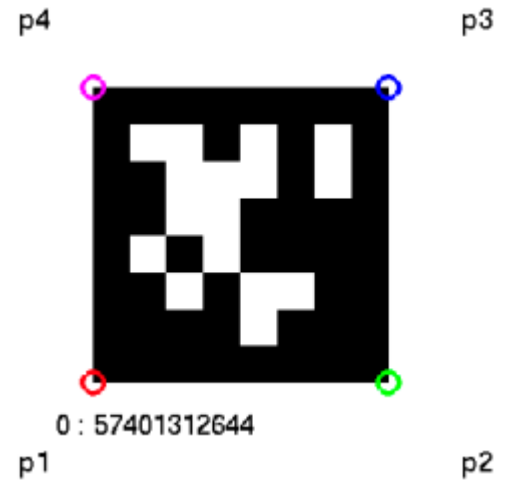

Figure 1: AprilTag example.
In this project, you will implement a nonlinear Kalman Filter (your choice of EKF or UKF) to estimate the pose of a quadcopter drone. We will leverage our knowledge of the dynamics of the quadcopter to construct an accurate process model and create a computer-vision based measurement model to provide position and orientation measurements from a known grid of AprilTags (example show in Figure 1). With this model we will then determine values for the covariance matrices in the process and measurements models (tuning).
3. `p1`, `p2`, `p3`, `p4` – Arrays with the four corners of every AprilTag in the image. The corners are given in the order bottom left (`p1`), bottom right (`p2`), top right (`p3`), and top left (`p4`), (see Figure 1). The i th column in each of these fields corresponds to the i th tag in the ID field. The values are expressed in image (pixel) coordinates.